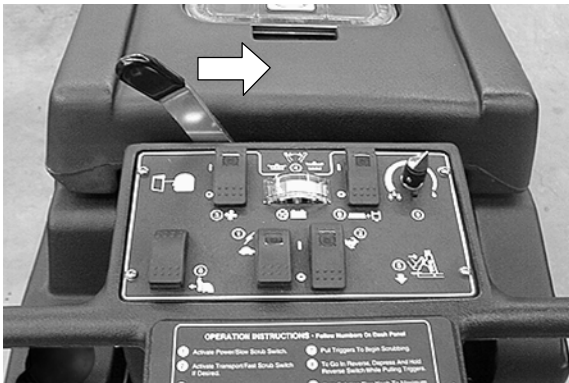

FIG. 1
1. Slide squeegee lift lever to the right to raise squeegee mount bracket (Figure 1).